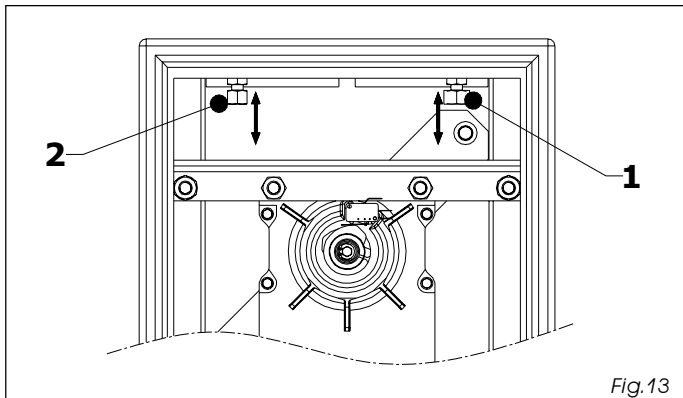

Fig.13
- adjust the mechanical stops, fig. 13 ref.1 and 2.